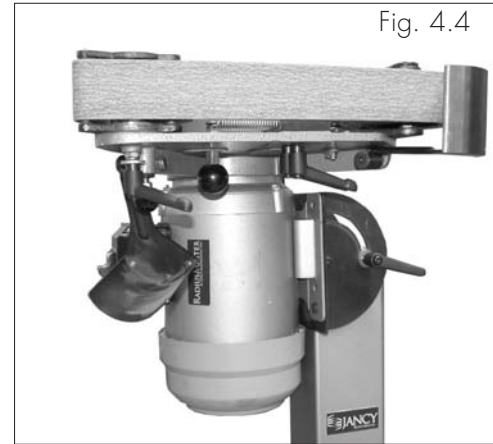

Fig. 4.4
STEP 1) Select the desired wheel size to be used as described earlier in this document. Tilt the RadiusMaster to the inclined position as described earlier in this document. Open the Wheel Guard and loosen the Clamp Fig 4.4.